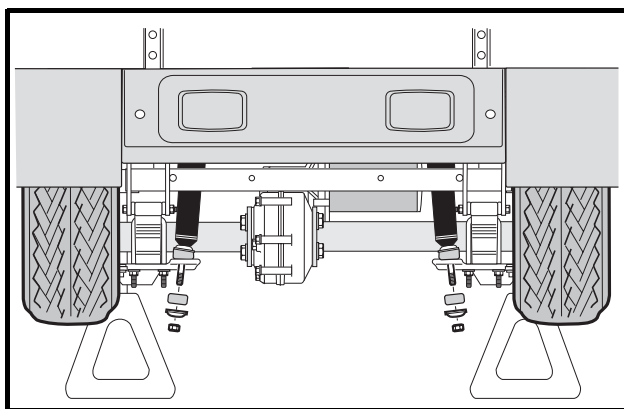
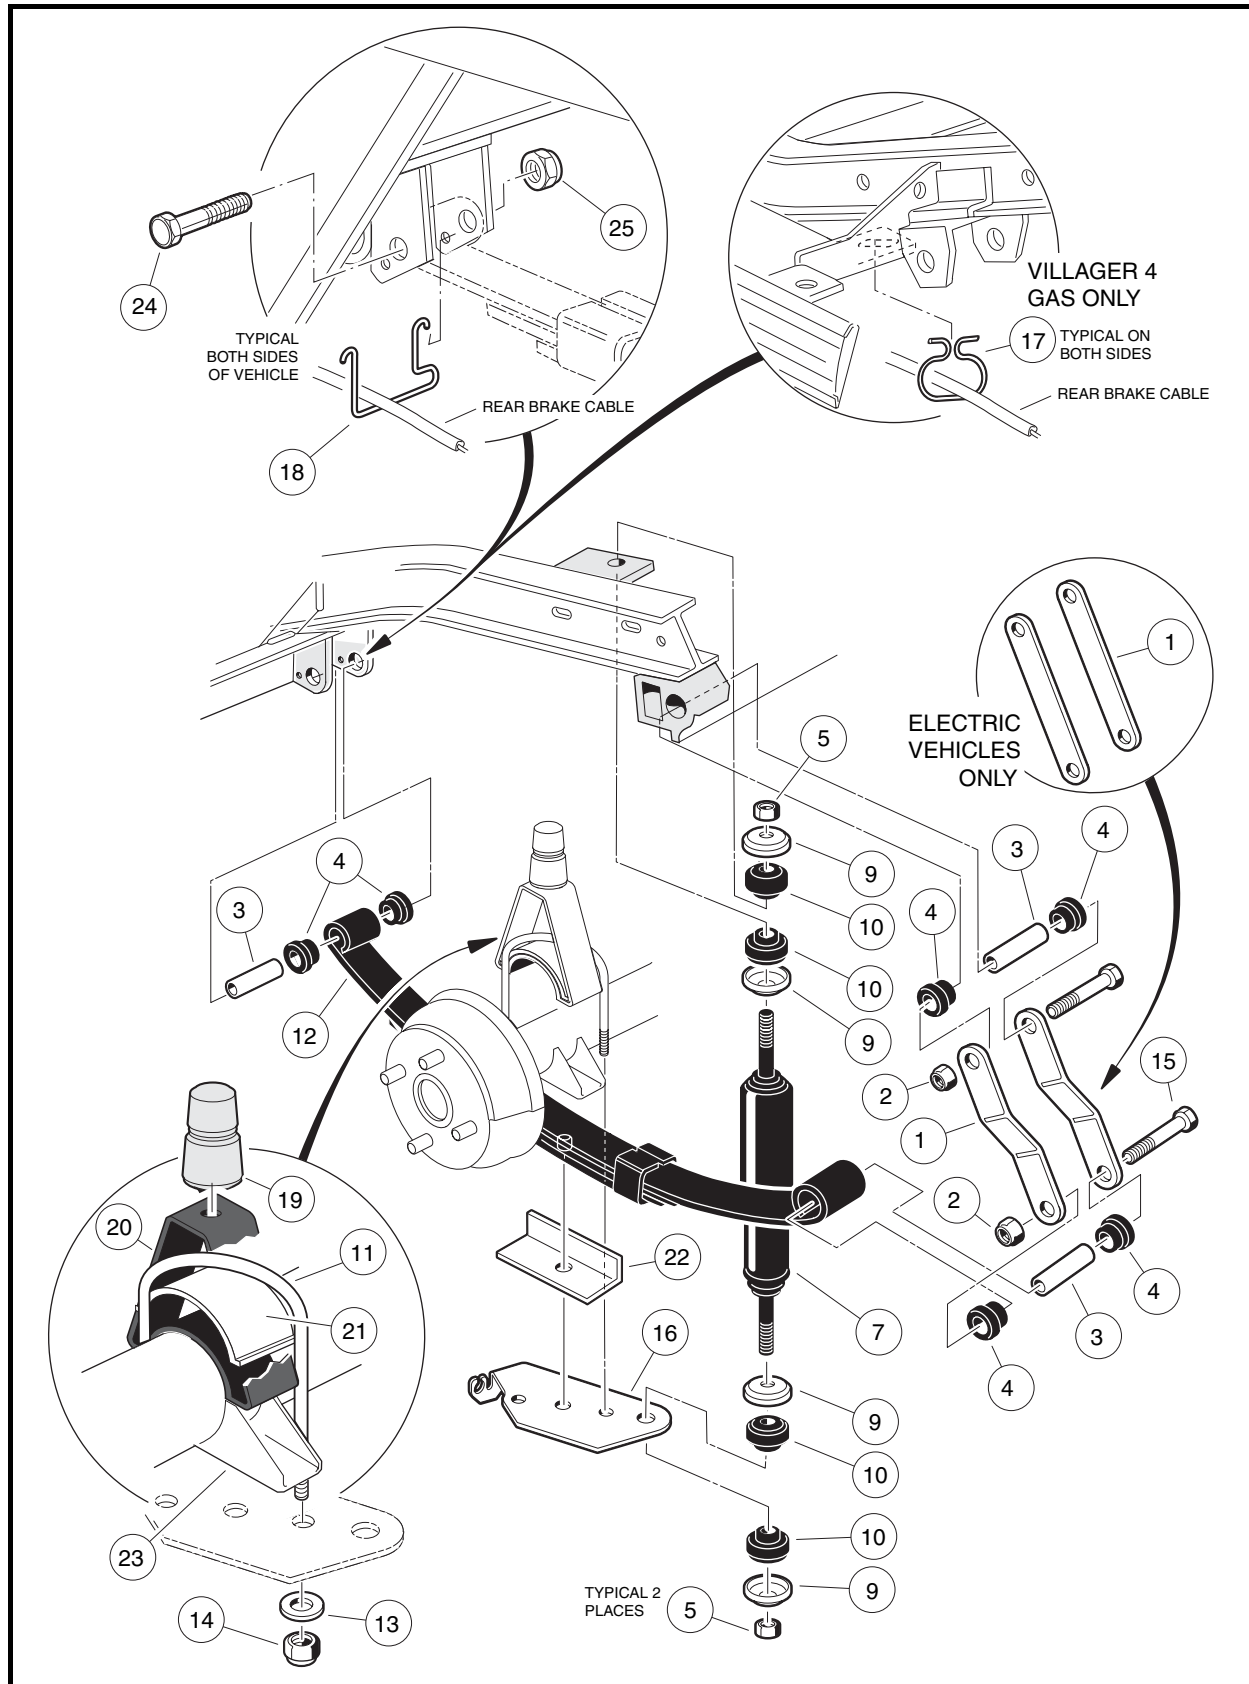
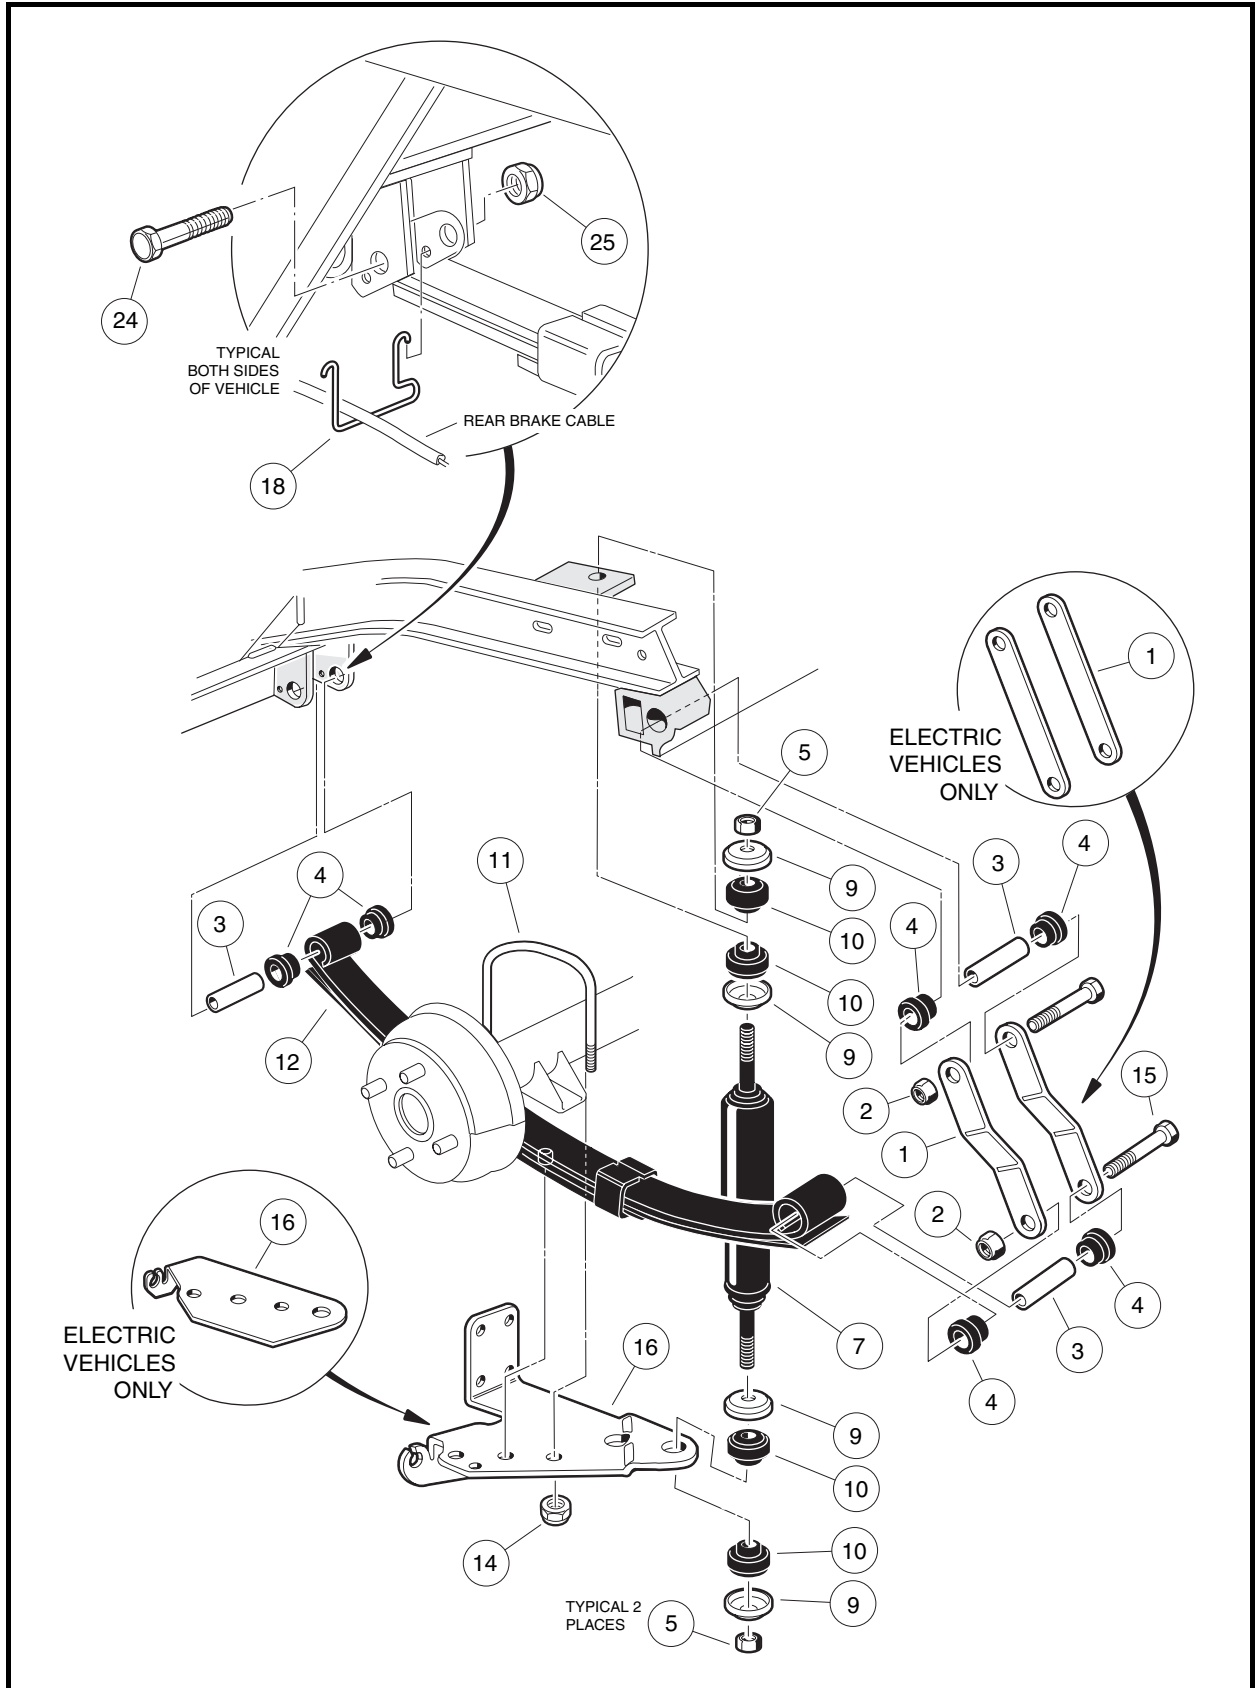

Figure 9-1 Remove Shock Absorbers
Figure 9-3 Rear Suspension – Villager 4 Vehicles
Figure 9-4 Rear Suspension – All Transportation Vehicles Except Villager 4
1. Check shock absorbers (7) for damage and fluid leakage around the lower housing of the shock absorber body. Replace damaged or leaking shock absorbers (**Figure 9-3, Page 9-4 or Figure 9-4, Page 9-5**).
2. To remove a shock absorber (7), remove the nut (5), cup washer (9), and rubber bushing (10) from the upper shock absorber stem.
3. Remove lower mounting hardware (5, 9 and 10) on shock absorber lower mount (**Figure 9-3, Page 9-4 or Figure 9-4, Page 9-5**). See also **Figure 9-1, Page 9-1**.
2. On the upper shock absorber mount, tighten nut (5) until rubber bushing (10) expands to size of cup washer (9) (**Figure 9-3, Page 9-4 or Figure 9-4, Page 9-5**).
3. On the lower shock absorber mount, install mounting hardware. Tighten the nut (5) until the rubber bushing (10) expands to the same diameter as the cup washer.
NOTE: Villager 4 vehicles are equipped with jounce bumpers (**Figure 9-3, Page 9-4**).
5. Remove lower nut (5), cup washer (9), and rubber bushing (10) from shock absorber (7) (**Figure 9-3, Page 9-4 or Figure 9-4, Page 9-5**).
- 6.1. Remove the lock nuts (14) and flat washers (13) (if present) attaching the U-bolt (11) to the shock mount bracket (16). Remove jounce bumper mount (20) and spacer (21) (**Figure 9-3, Page 9-4**).
- 6.2. Allow shock mount bracket (16) to rotate downward and remove spring retainer (22). Do not disconnect brake cable from bracket (**Figure 9-3, Page 9-4**).
- 7.1. Remove the lock nuts (14) attaching the U-bolt (11) to the shock mount bracket (16). Do not disconnect brake cable from bracket (**Figure 9-4, Page 9-5**).
8. Raise axle with floor jack until axle saddle (23) is 1 inch (2.5 cm) above spring (**Figure 9-3, Page 9-4**).
9. Remove bolt (15) and lock nut (2) attaching the leaf spring (12) to the rear shackle (1) (**Figure 9-3, Page 9-4 or Figure 9-4, Page 9-5**).
10. Allow rear of leaf spring (12) to rest on the ground and remove the bolt (24) and lock nut (25) attaching the front of the spring to the vehicle frame (**Figure 9-3, Page 9-4 or Figure 9-4, Page 9-5**). Remove spring from vehicle.
11. Inspect the rubber bushings (4) and steel sleeves (3) in the spring eyes and replace them if they are worn or damaged (**Figure 9-3, Page 9-4 or Figure 9-4, Page 9-5**).
1. Install rubber bushings (4) and steel sleeves (3) into leaf spring eyes if bushings were removed (**Figure 9-3, Page 9-4 or Figure 9-4, Page 9-5**).
2. Place front of leaf spring (12) into vehicle frame and insert bolt (24) through frame and leaf spring eye. Install lock nut (25) and tighten to 15 ft-lb (20.3 N·m).
3. Align the other end of leaf spring with the holes in the spring shackles (1). Insert bolt (15) through leaf spring eye and shackles. Install lock nut (2) and tighten to 15 ft-lb (20.3 N·m). Lower transaxle onto leaf spring (12). **See following CAUTION.**
- When placing transaxle on spring, be sure to position locating bolt on the spring in the locating hole in the transaxle saddle (23) (**Figure 9-3, Page 9-4**).
- 4.1. Install spring retainer (22) and shock mount bracket (16) onto locating bolt at bottom center of leaf-spring (**Figure 9-3, Page 9-4**). **See preceding CAUTION.**
- 4.2. Position jounce bumper mount (20) with spacer (21) onto axle tube. Install U-bolt (11), flat washers (13) (if present), and lock nuts (14). Tighten U-bolt to 25 ft-lb (34 N·m) (**Figure 9-3, Page 9-4**).
- 5.1. Install shock mount bracket (16) onto locating bolt at bottom center of leaf-spring (**Figure 9-4, Page 9-5**). **See preceding NOTE.**
- 5.2. Install U-bolt (11) and lock nuts (14). Tighten U-bolt to 25 ft-lb (34 N·m) (**Figure 9-4, Page 9-5**).
1. Grip jounce bumper (19) and pull from bumper mount (20) (**Figure 9-3, Page 9-4**).
1. Insert jounce bumper (19) into bumper mount (20) (**Figure 9-3, Page 9-4**). Make sure the entire circumference of bumper is seated firmly in mounting hole.